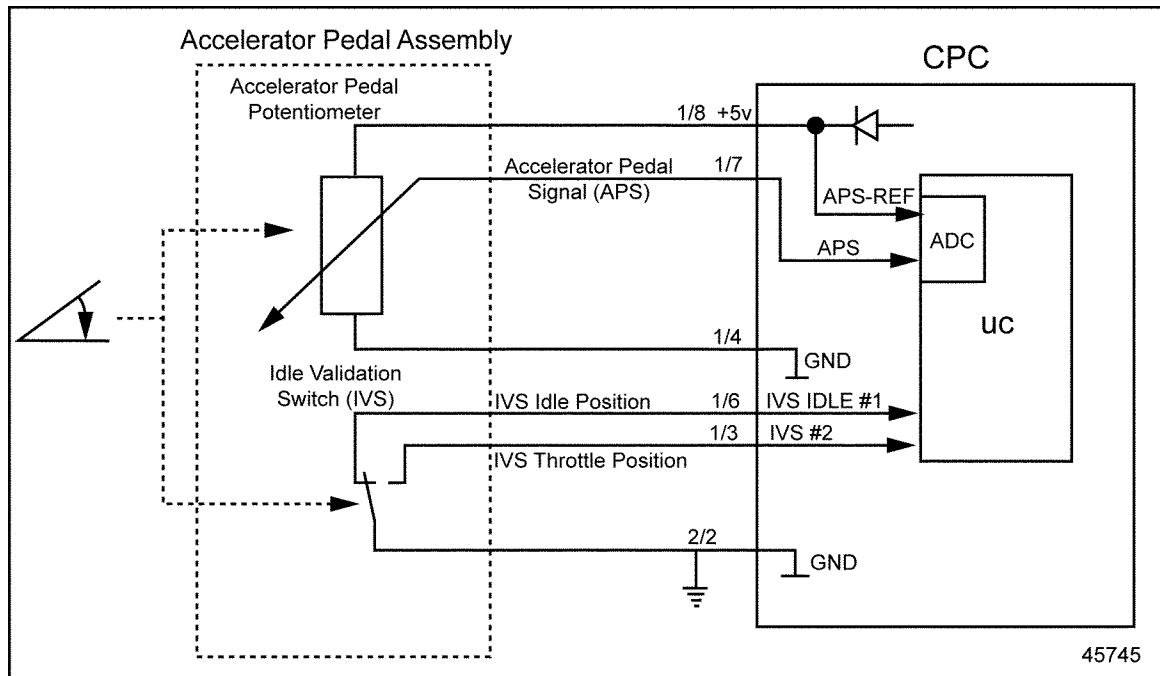

Figure 6-2 Accelerator Pedal Assembly Installation
1. Disconnect the Accelerator Pedal (AP).
- [a] If the voltage is between 4.5 and 5.5 volts, repair the open circuit between pin 3 of the AP harness connector and pin 4 of the CPC #1 connector. See Figure 6-2. Refer to section 6.2.1.1.
- [b] If the voltage is less than 4.5, repair the open circuit between pin 1 of the AP harness connector and pin 8 of the CPC #1 connector. See Figure 6-2. Refer to section 6.2.1.1.